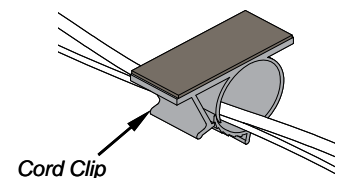

Figure 8D
- Apply cord clips to underside of work surface where needed to route cords. **Figure 8D.** (Included with radius corner and wall filler panels only.)